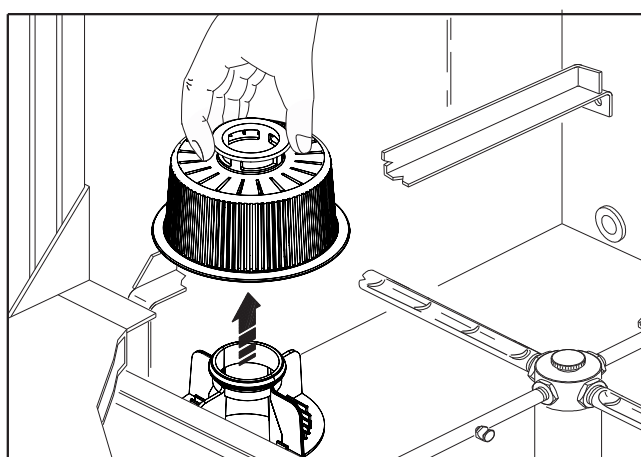

Fig. 17
2. Remove and clean the wash pump filter (fig. 17) and any tank filters if present